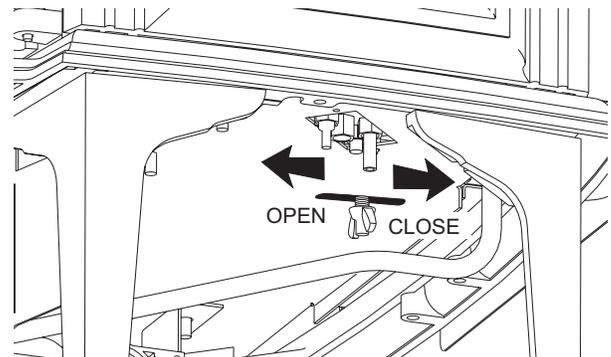

Figure 26.
16. Adjust the Air Shutter: Locate and loosen the wingnut that secures the Air Shutter. See fig. 26. It is under the stove, in the center toward the rear. Push the shutter stem back to restrict air and forward to increase air to the burner. You will need to experiment to find the best setting for your particular installation. The shutter is set at the halfway position at the factory.
1. Locate and loosen the adjustment stem wingnut protruding from the bottom of the firebox, directly behind the gas valve. See fig. 26.